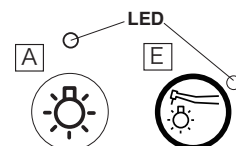

Fig.3-6 Light Pack Switch
④ The Light Pack Switch (Optional)(Fig.3-6) **A** **E**